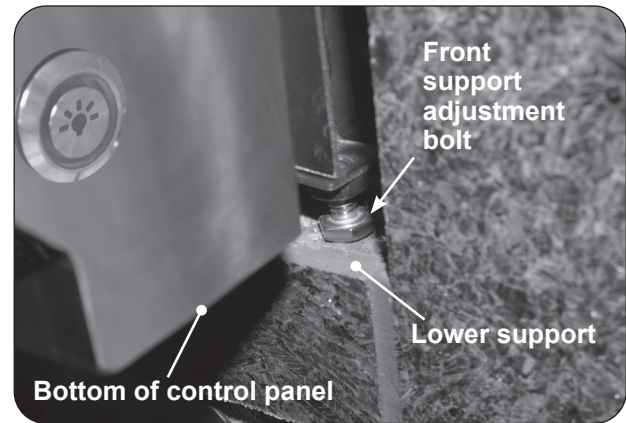

Fig. 28-1 Front support adjustment bolts
3. Rotate the front support adjustment bolts (up or down) until the grill hanger rests flush on the countertop, AND, the adjustment bolts are touching the supporting structure found at the bottom of the cutout (lower support). Use a $\frac{7}{16}$ " open-end wrench as needed. See Fig. 28-1.